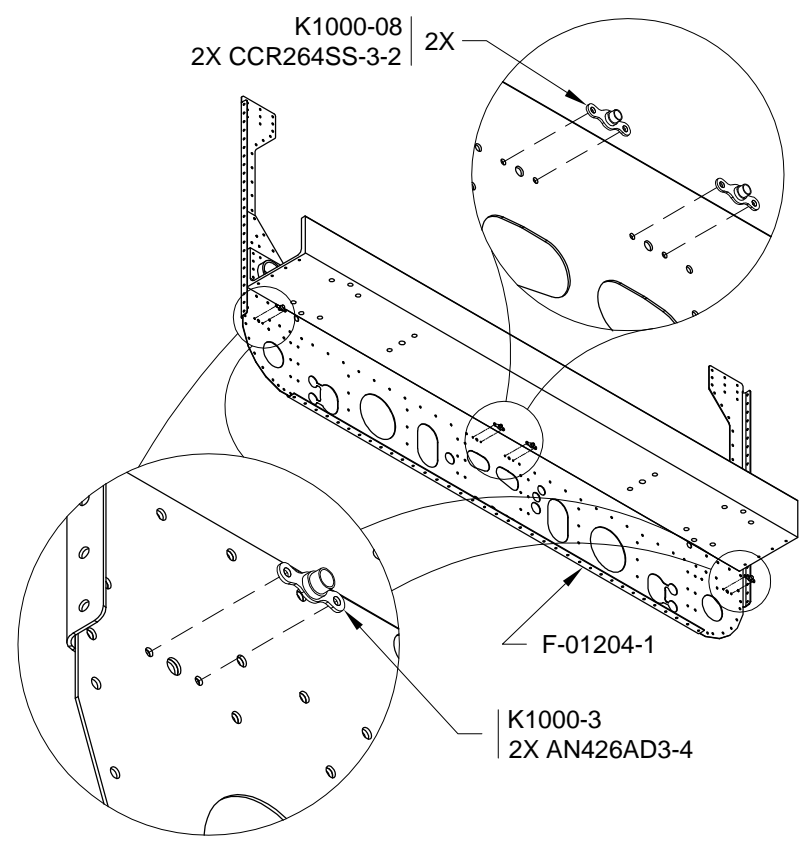

FIGURE 1: INSTALL NUTPLATES
Step 1: Machine countersink #40 the nutplate rivet holes in the F-01204-1 bulkhead per Figure 1 call-outs.
Step 2: Install nutplates on the F-01204-1 bulkhead per Figure 1 call-outs.